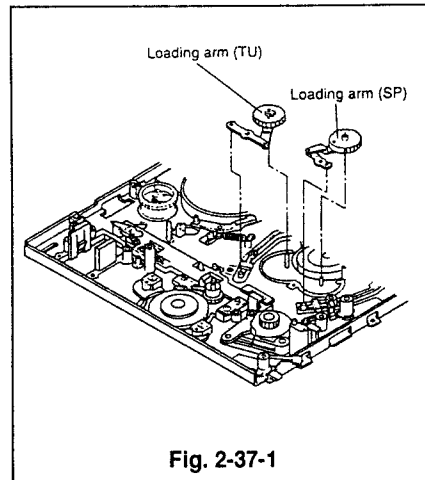
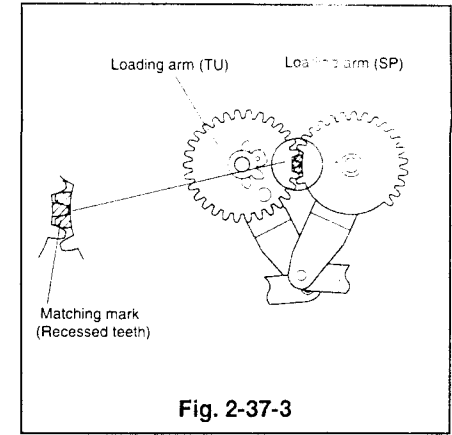

Fig. 2-37-1
Fig. 2-37-3
- ⑤ Raise the loading arms upward, first SP and then TU, to remove them. (Refer to Fig. 2-37-1)
- ② Place the new loading arm (TU) in the position shown in Fig. 2-37-1, then place the loading arm (SP) in the position shown in Fig. 2-37-1 at the same time aligning the marks on the cogs, refer Fig. 2-37-3 (shaded area).
- ③ Apply grease (G)[859D055O50] to the area that touches the cogwheel of the loading arm (TU) when the loading arms (SP and TU) are shifted fully to the loading direction. Apply grease (G)[859D055O50] to the gear portion that meshes with the plate cam B.